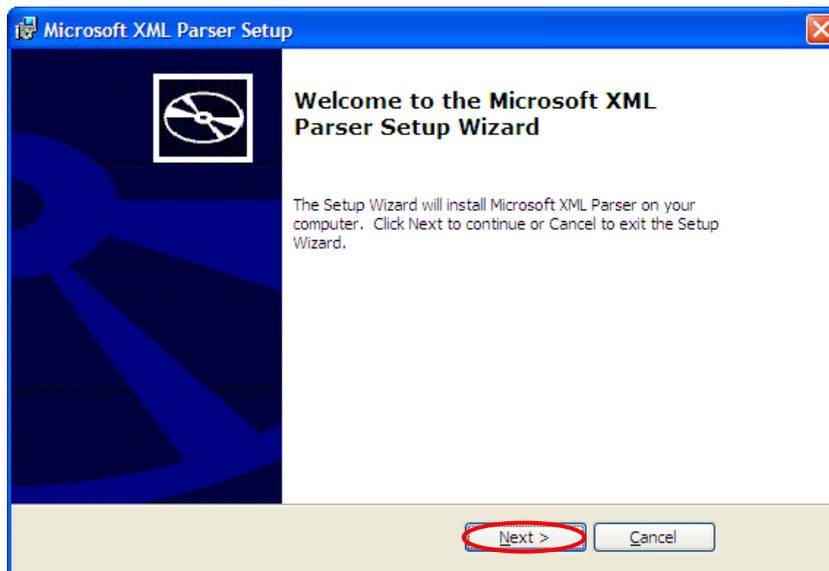

Figure 1-1-11 Installation Steps (11)
- Enter MSXML 3.0 SP4 setup wizard and click "Next", as shown in figure 1-1-11.